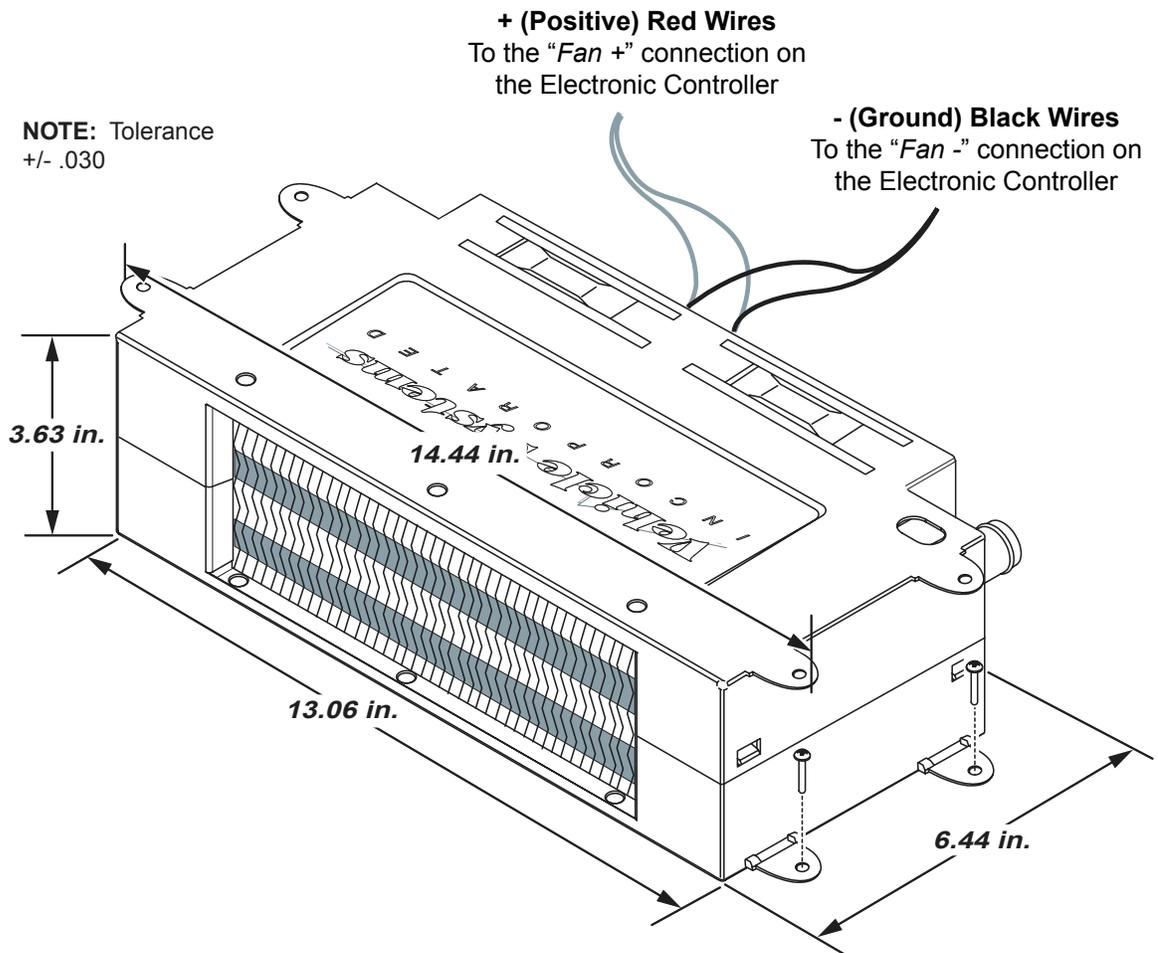

Figure 9
2. Mount each Heat Exchanger permanently into place; reference Figures 9, 10, and 12.